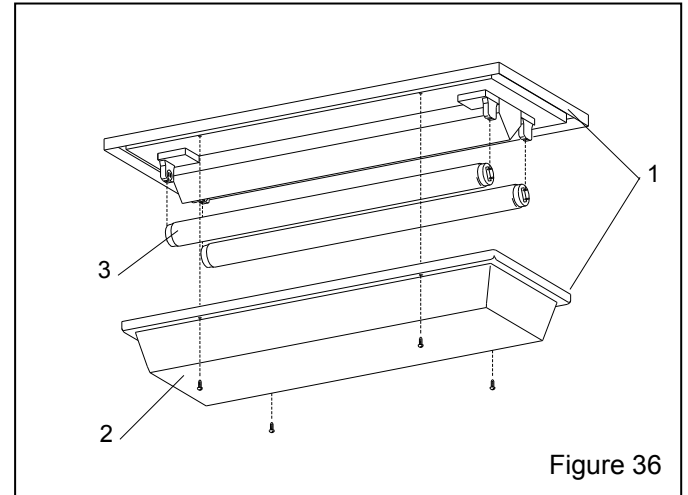

Figure 36
**9.8 Light Assembly, Figure 36**